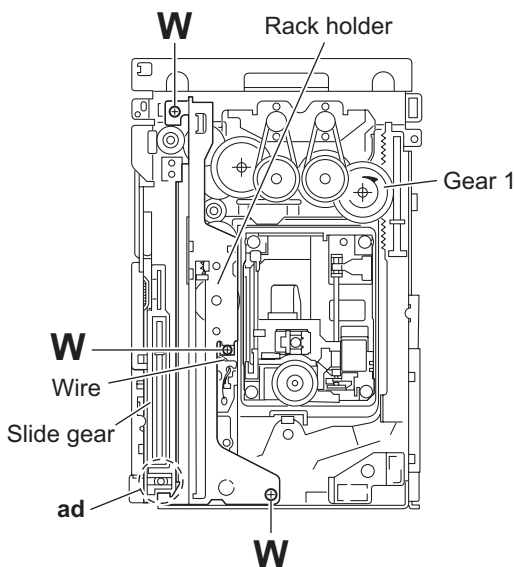

Fig.32
### 3.2.14 Removing the rack holder and sensor assembly (See Figs.32 to 38)
If the slide gear of the DVD changer mechanism assembly places at joint **ad** of the rack holder, turn the gear 1 counter-clockwise to move the slide gear in the direction of the arrow. Then Remove the rack holder. (See Figs.32 and 33.)
- (1) Remove the three screws **W** attaching the rack holder and release joint **ad** from the notch **ae**. (See Figs.32 and 34.)
When reattaching the rack holder, do not nip the wires extending from the sensor assembly. (See Fig.32.)
- When reattaching the rack holder, turn the gear 1 clockwise to move the slide gear and slide lever inside the body in the direction of the arrow. (See Figs.32 and 38.)